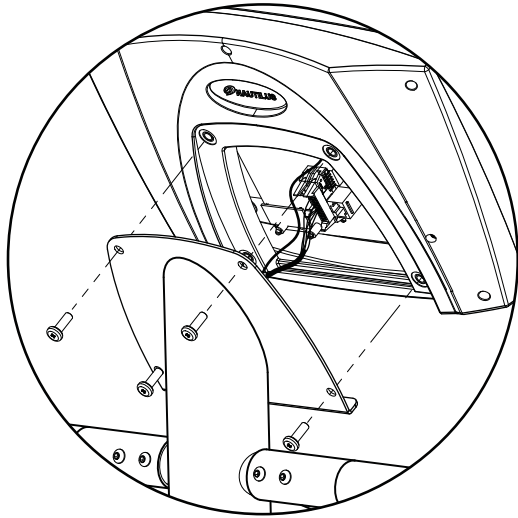

Figure 7A
**7-1** Connect the cables from the Mast to the 20 pin connector on the PC board (Figure 7A & 7B).
**7-2** Connect the telemetry Heart Rate (Polar HR) cable to the J6 connector at the top of the PC board (Figure 7A & 7B).